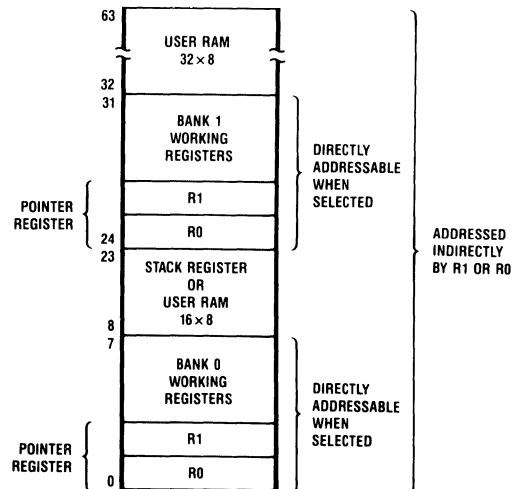

FIGURE 6. SY8048 Resident RAM Data Memory Map
The resident RAM data memory is arranged as 64 bytes. RAM addressing is implemented indirectly via either of two 8-bit RAM pointer registers R0 or R1. These pointer registers are essentially the first two locations in the RAM (see *Figure 6*), addresses 00 and 01. RAM addressing may also be performed directly by 11 direct register instructions. The register area of the RAM array is made up of eight working registers that occupy either the first bank (0), locations 0 to 7, or the second bank (1), locations 24 to 31. The second bank of working registers is selected by using the Register Bank Switch instruction (SEL RB). If this bank is not used for working registers, it can be used as user RAM.